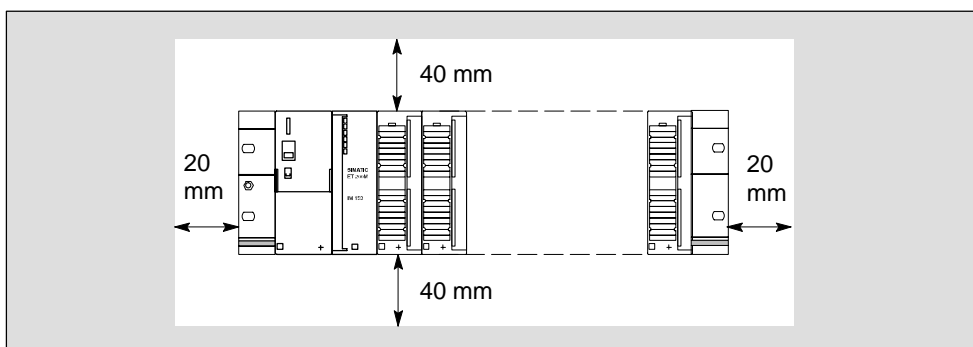

Figure 4-2 Clearance measurements for an ET 200M installation on a mounting rack
Figure 4-2 shows you the clearance measurements to nearby cable ducts, apparatus, cabinet walls etc. for an ET 200M installation.
1. Choose a position for the rail that leaves enough room to install it properly and enough space to cope with the temperature rise of the modules (leave at least 40 mm free above and below the rail; see Figure 4-2 on page 4-3)